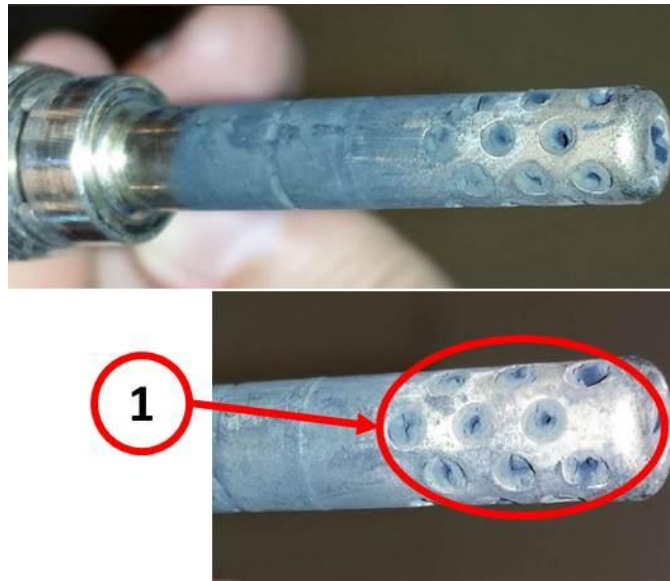

Fig. 1 EGT Sensor Bank 1 Sensor 2
12. Inspect the sensor body and probe for any signs of damage or excessive soot. Refer to (Fig. 1).